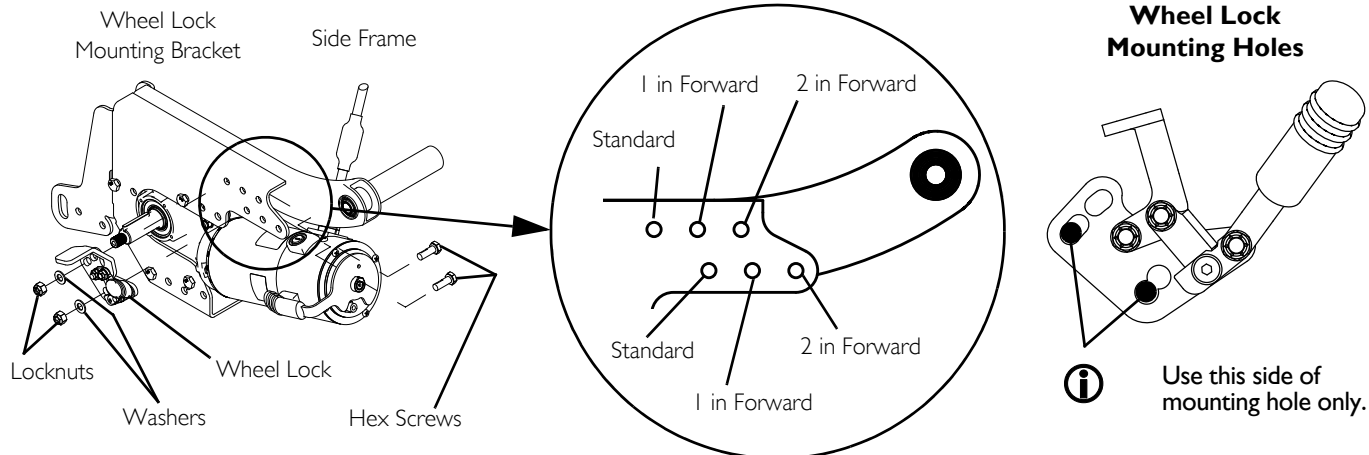

FIGURE 7 Installing Wheel Locks for Motor/Gearbox Assemblies
i Refer to FIGURE 7 for proper positioning of wheel locks.
1. Determine the appropriate wheel lock mounting position on the wheel lock mounting bracket located on the side frame (FIGURE 7).
2. Using the wheel lock mounting holes shown in FIGURE 7, Position the wheel lock on the outside of the wheel lock mounting bracket of the side frame.